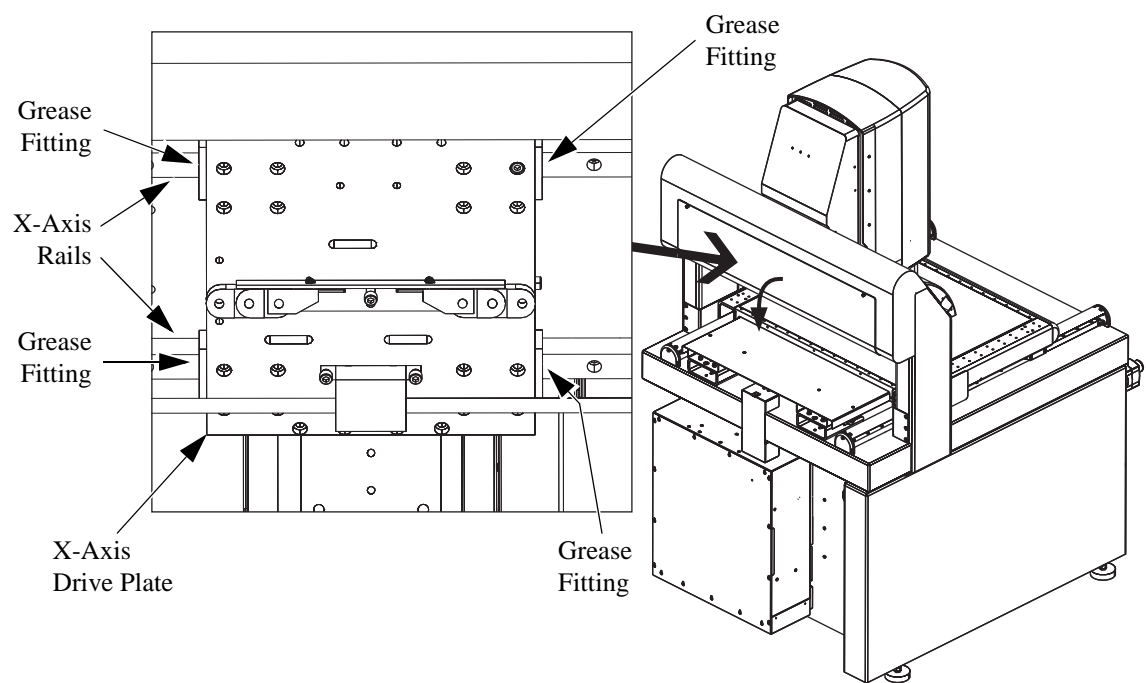

Figure 6-5 Cleaning and Lubricating the X-Axis Rails
4. Locate the X-axis rails and grease fittings (see Figure 6-5).